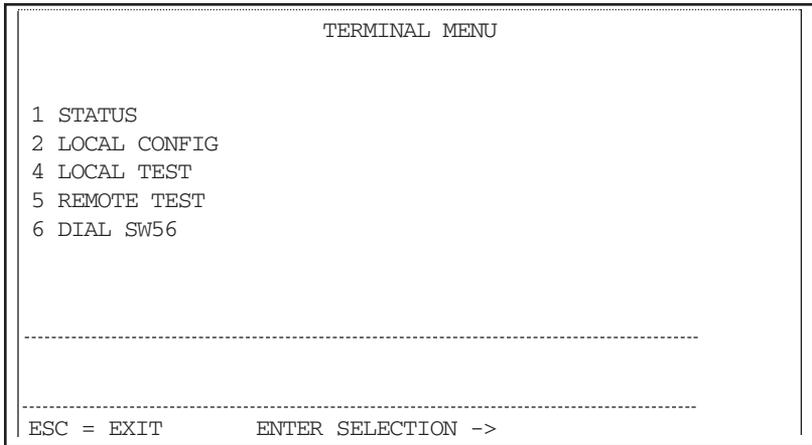

Figure 3-3. Terminal Interface Main Menu (SW56 Mode).
The CSU/DSU MS DBU uses a multilevel menu approach to access its many features. All menu operations are displayed in the LCD window or the terminal. See Figure 3-3 for the terminal Main menu.
4. Establish the connection and press Enter repeatedly until the Terminal Menu appears (Figure 3-3).